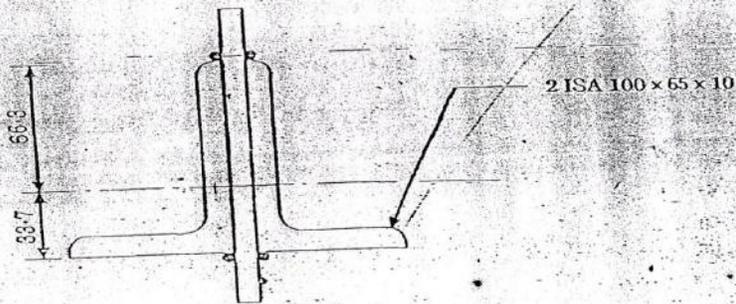

Figure 2-5
12. (a) A tension member in a truss consists of a pair of angles ISA 100 × 65 × 10 mm welded on either side of a 12 mm thick gusset plate, using a 7 mm weld. Design the welded joint, shown in Figure 2-5. 12